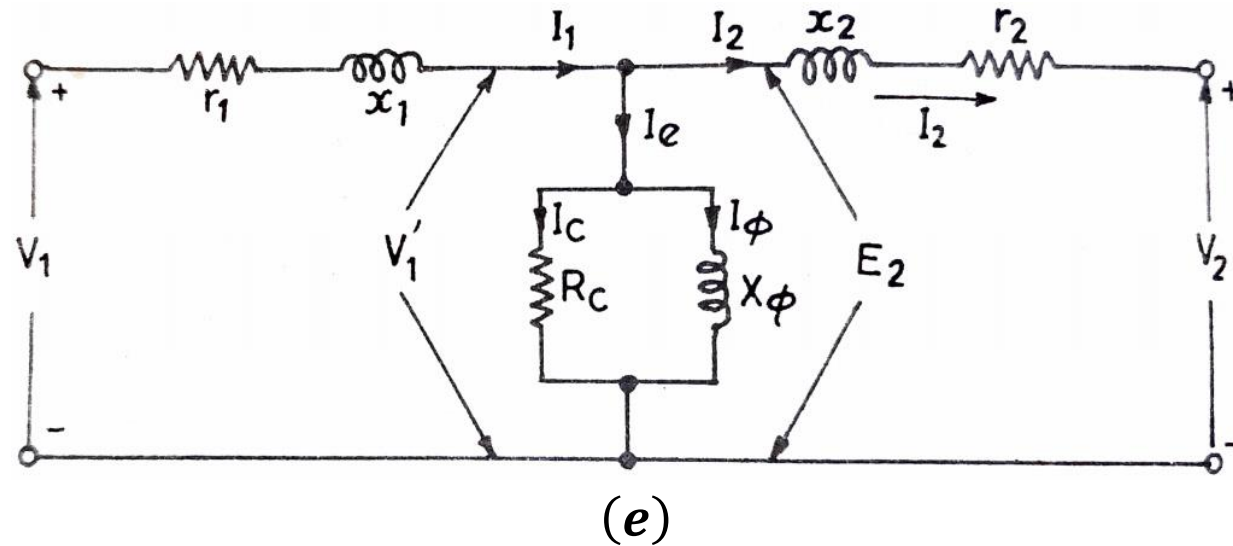
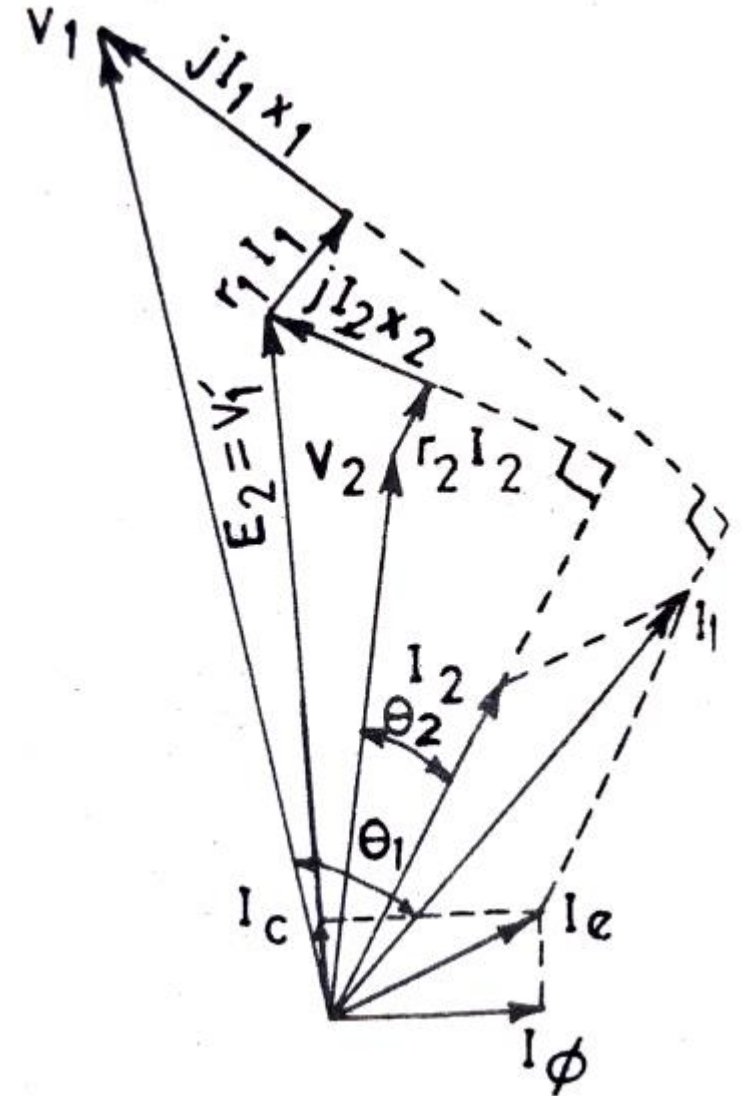

Fig. 8.15
Fig. 8.16
- ✓ The phasor diagram for the equivalent circuit of **Fig. 8.15** (e) is drawn in **Fig. 8.16**.